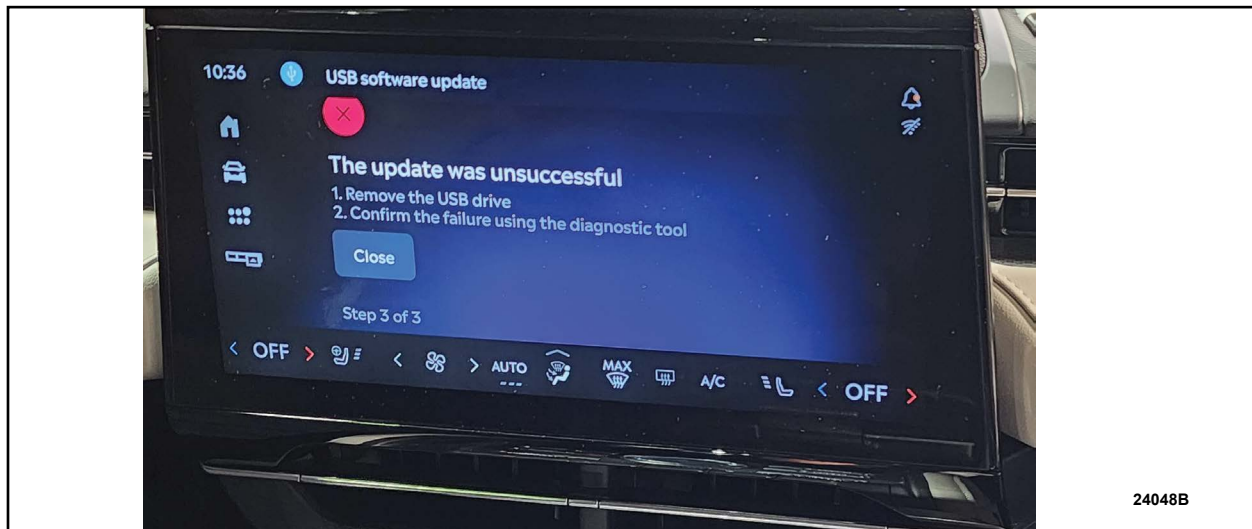

FIGURE 4
16. When the USB update has finished the successful screen will NOT appear. There will be an unsuccessful screen. **Make sure to continue with the Field Service Action (FSA)**. See Figure 4.